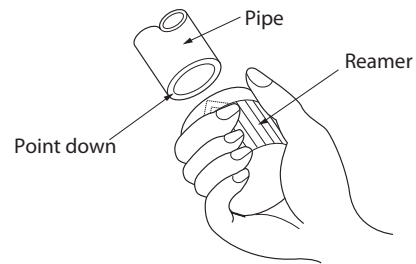

**Fig. 7.2**
1. Make sure that the pipe is cut at a perfect 90° angle. Refer to Fig. 7.2 for examples of bad cuts.